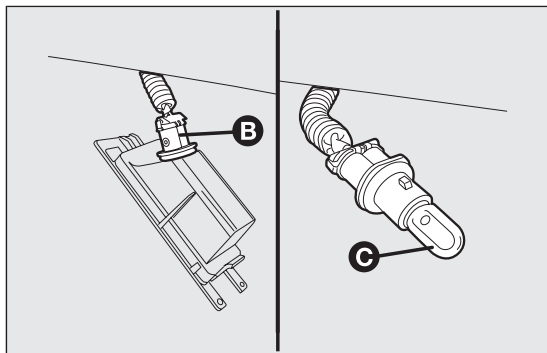

fig. 173
- turn the bulb holder B fig. 173 clockwise;